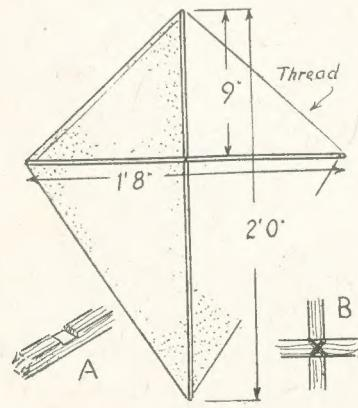
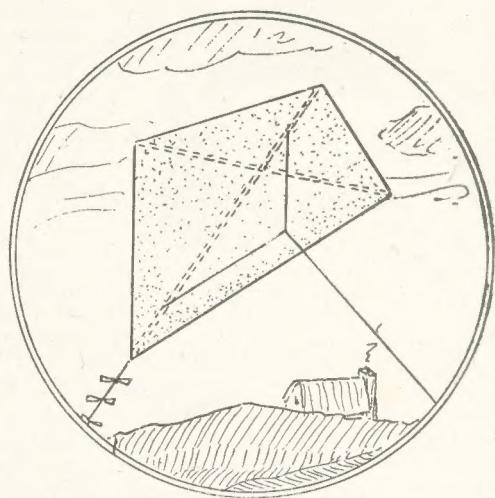

Fig. 1
Fig. 2
Fig. 1 shows the simplest pattern of kite, but quite a good flying one if carefully made. For the framework use strips of the wood $\frac{1}{8}$ in. square. Cut these to the lengths given and rub off sharp edges with a light rub down with fine glasspaper. At the spot on the backbone, where the cross strip comes, cut a shallow notch, as at (A). This should not be deeper than $\frac{1}{16}$ in., or it may weaken the backbone of the kite.
Make it about 3ft. long, doubled, of course. For some 12ins. of the middle, the doubled thread should be knotted to form a succession of loops, as at (D), in Fig. 2, so that the position of the kite line can be adjusted, as may be found necessary.
Take a double-spread sheet of newspaper and roll it up, as shown in Fig. 1. Tie the ends, like a sausage. Then prepare another roll (Fig. 2).